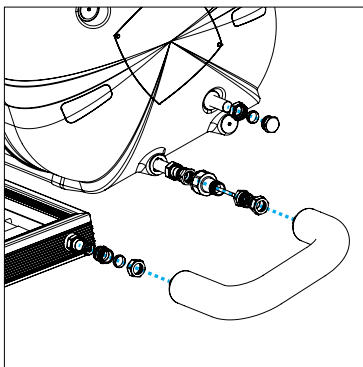

Figure 12. Cold pipe (closed circuit)
- **Closed Circuit System** – see *Figure 12*